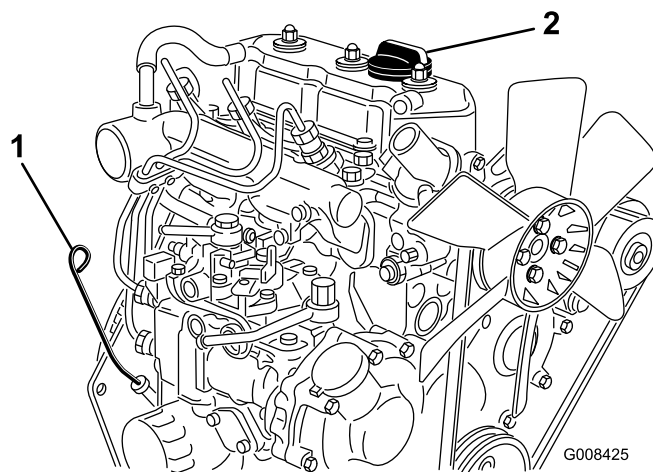

Figure 29
2. Remove the dipstick and wipe it with a clean rag (Figure 29). Push the dipstick into the tube and make sure it is seated fully. Remove the dipstick from the tube and check the level of oil. If the oil level is low, remove the filler cap from the valve cover and slowly